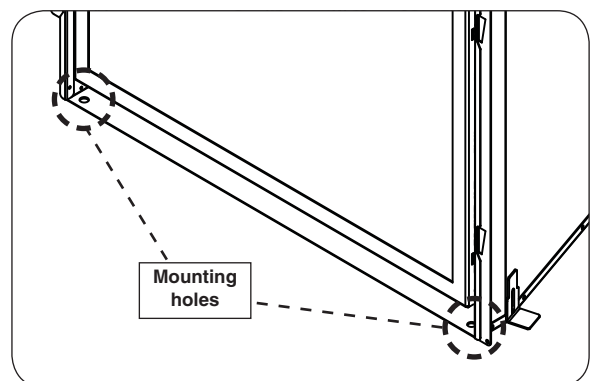

Fig. 34-3 Secure direct vent to fireplace floor
1. Locate the two  $\frac{5}{16}$ " holes on the far left and right front floor of the unit. Using appropriate mounting hardware for your fireplace construction, secure the unit to the floor. See Fig. 34-3.